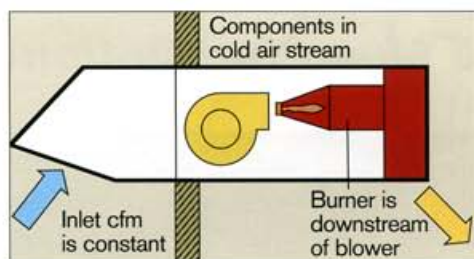

Fig. 4. Blow-thru space heater
**High temperature blow-thru space heaters** are well suited for large warehouses and manufacturing plants. This direct-fired technology uses a gas burner/blower arrangement where the burner is downstream of the blower (Fig. 4). This locates critical components in the cold air stream